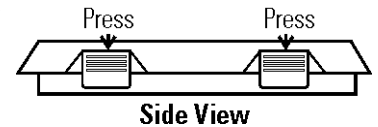

Figure 4-8. Retaining Tabs
5. Remove the 982 controller module(s) by pressing in the four retaining tabs, two on the right side; two on the left side. Refer to Figure 4-8. Pull the controller module out by gently rocking it from side to side.